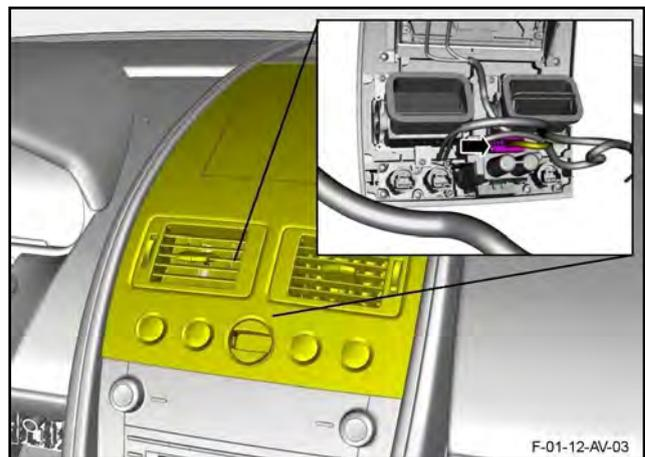

Figure 15
22. Disconnect the electrical connector from the ignition switch module (refer to Figure 15).